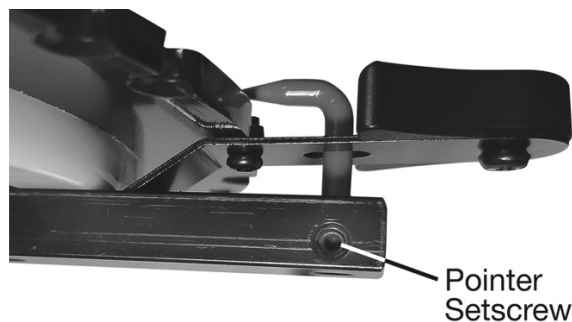

Figure 7-5
4. After squaring, if the red pointer (C) is not pointing at 0°, loosen the pointer setscrew (see Figure 7-5), rotate the pointer to 0°, and retighten the pointer setscrew.